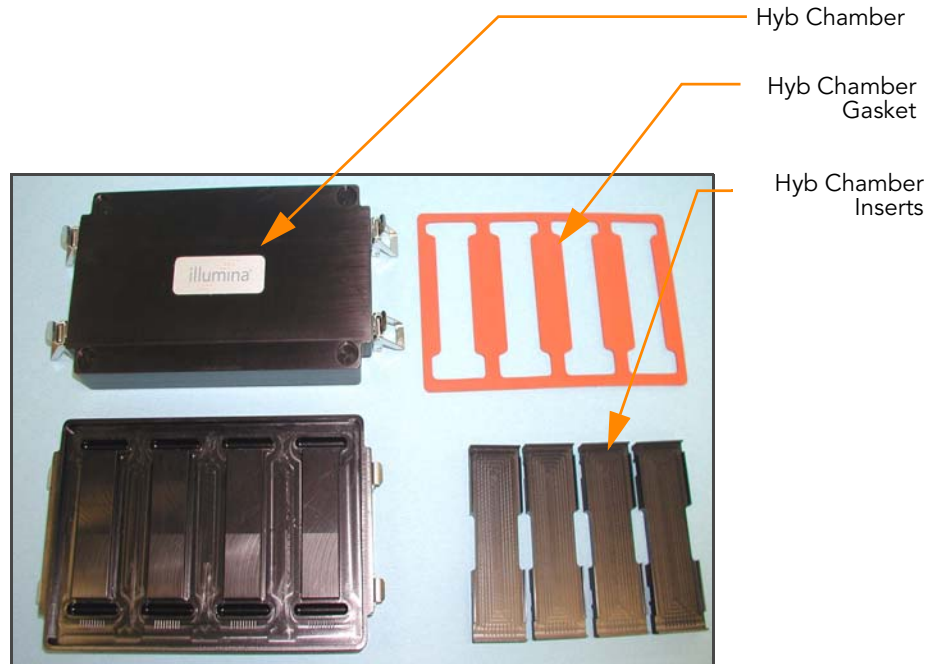

Figure 19 BeadChip Hyb Chamber Components
- Place the following items on the bench top (Figure 19):